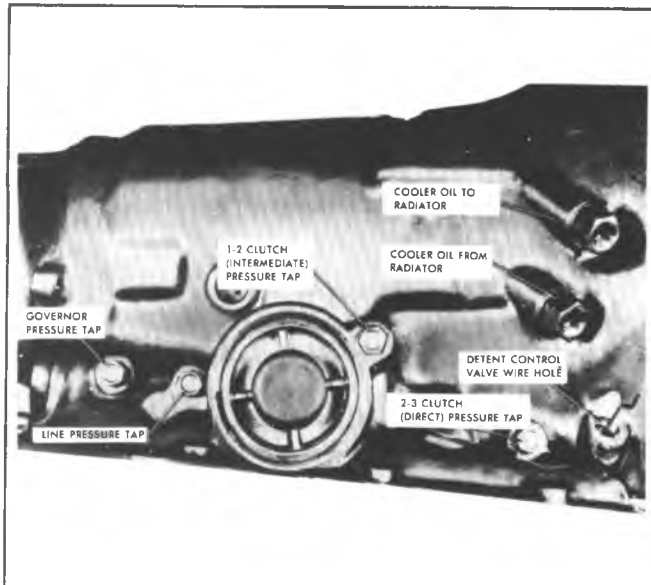

Fig. 7A-10--Pressure Tap Locations
1. Install line Pressure Gage, to tap location shown in Fig. 7A-10.
3. With car on hoist (rear wheels, off ground), foot-off brake, in **DRIVE (D)**, check line pressure at 1000 rpm.